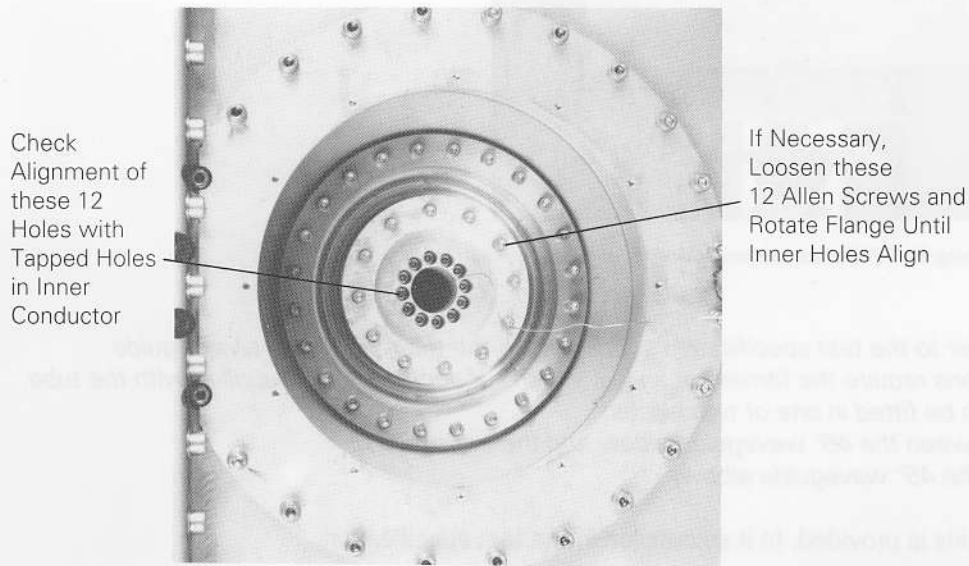

Fig. 35. View of Underside of Transition (TE 1164B)
- (l) Finally, before closing the gap, check the underside of the transition (Fig. 35) and ensure that the twelve holes in the flange coincide with the tapped holes in the inner conductor. If not, loosen the twelve Allen screws and rotate the flange until the holes align. Tighten the twelve Allen screws and recheck the alignment
- (p) Secure the coaxial inner conductor (Fig. 35), using the 12 bolts from package P8 (paragraph 1.1.(b)). Apply a torque of 5 Nm.